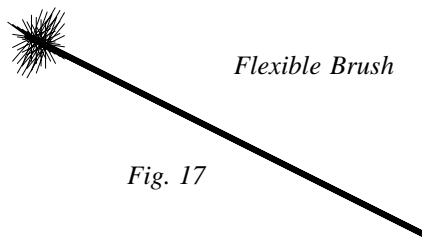

Fig. 17
* There are two vertical tubes and a side tube on each side. Clean fly ash from heat exchanger tubes with flexible brush as shown in fig. 17. The right side tube has a bend in it so be sure to push the brush all the way through to the collector box.